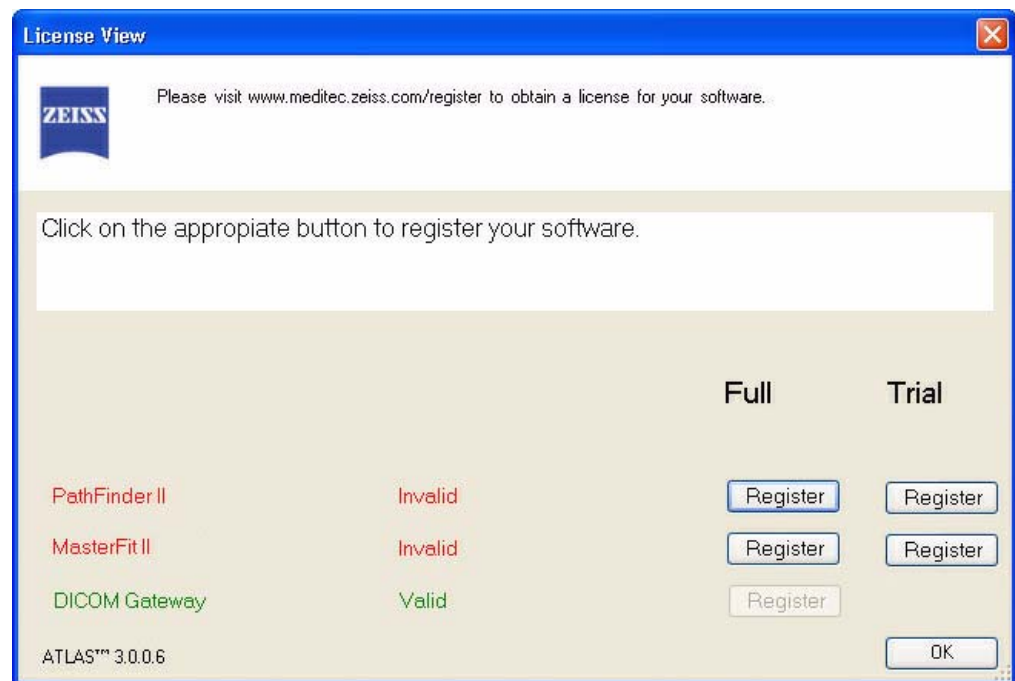

Figure 16 License View Window with Full Review License Registered
13.The LICENSE VIEW window (Figure 16) is displayed with the Full license registered. Select **OK** to begin using the software.